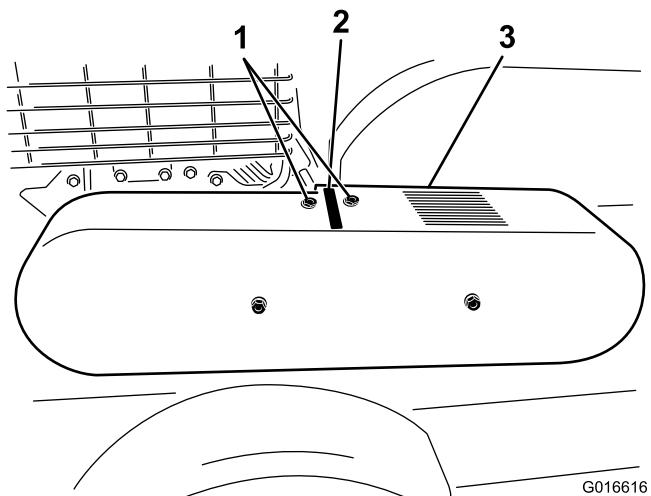

Figure 25
Note: Inspect the drive belt tension by inserting a metal scale through the slot on top of the belt cover (Figure 25) and pressing down on the scale with a force gage. The force should measure $15 \pm .75$ lbs (6.5–7.5 kg) at 0.40 inch (1cm) belt deflection. Adjust as required.
2. Remove the belt guard (Figure 25).